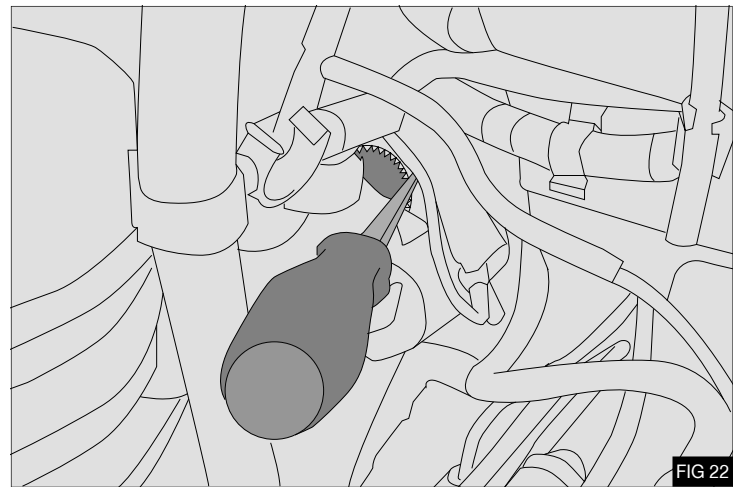

FIG 22
20. Using a suitable tool (large lever bar) against the flywheel gear, lock the engine and remove the bolt securing the crankshaft pulley – discard bolt. - Fig 22